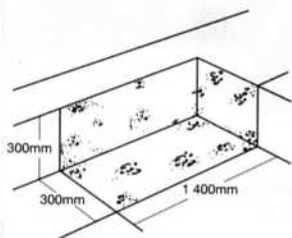

Figure 3
1. Dig a foundation hole with suitable dimensions. *See figure 3*